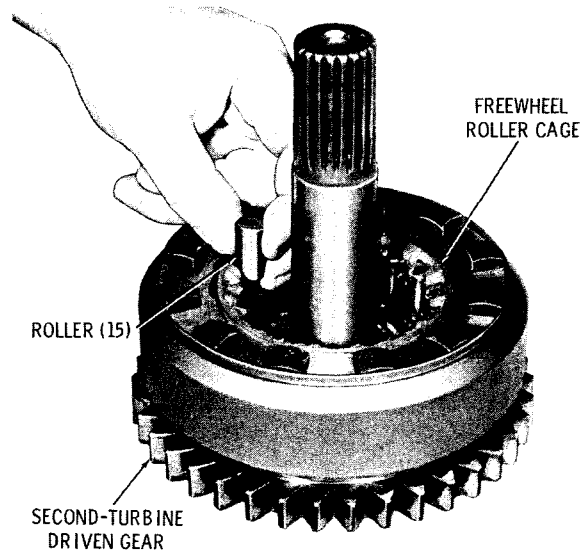

Fig. 6-10. Installing roller into roller cage
(7) Install fifteen rollers into the cam pockets; use oil-soluble grease to retain the rollers in the cage (fig. 6-10).